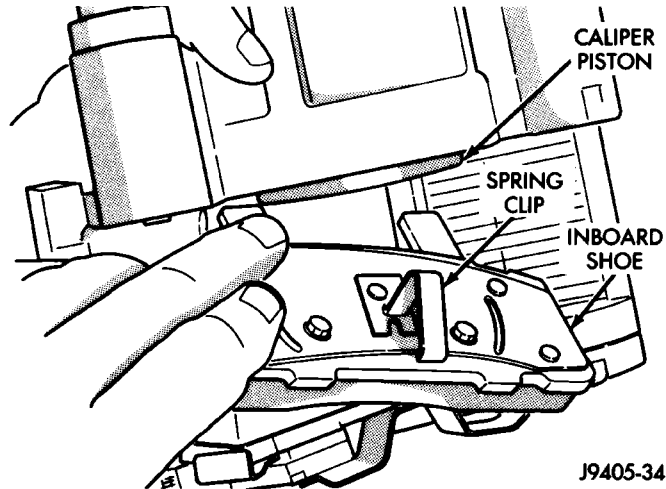

FIGURE 4 - Inboard Brake Lining Installation
- 11. Install inboard brake lining from front brake lining set (see Parts Required section) onto caliper. Be sure the end of the retaining spring clip does not get jammed between the piston and the edge of the shoe plate (Figure 4).